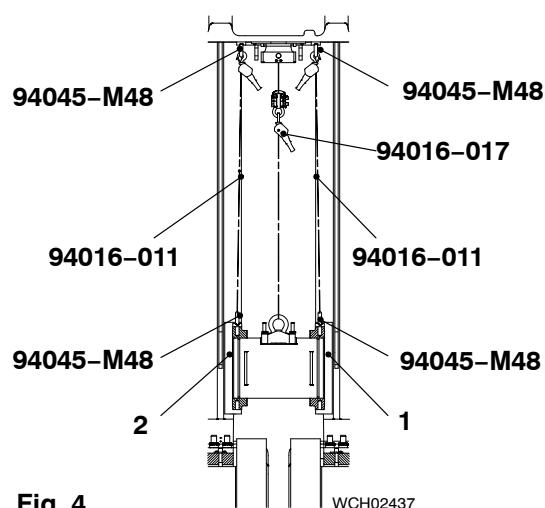

Fig. 4
- 23) Attach the manual ratchets (94016-011, Fig. 4) to the eye bolts (94045-M48) on the guide shoes (1) and (2). Apply a light tension to the chains.